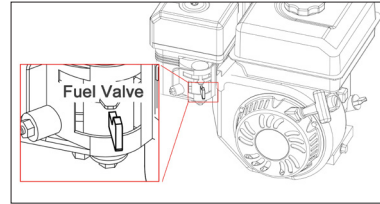

Fig 2. Fuel Valve
5. Set the fuel valve to open (Fig 2).